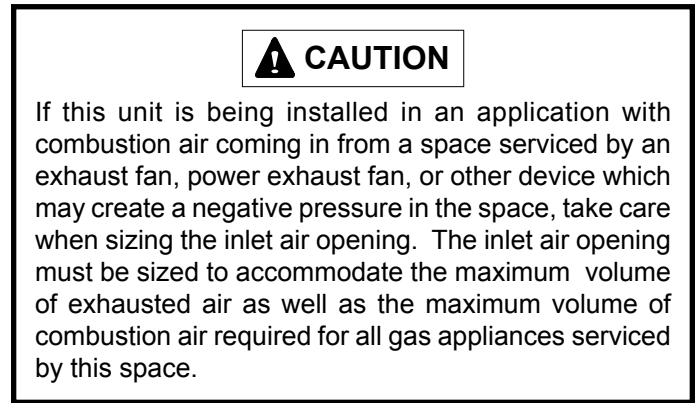
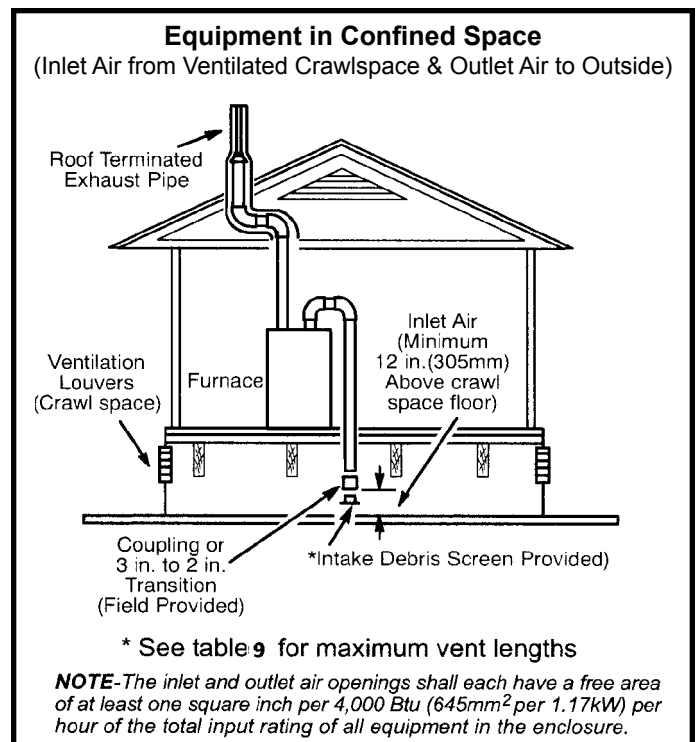

Figure 25
Figure 26
2. If intake air is drawn from a ventilated attic (Figure 25) or ventilated crawlspace (Figure 26) the exhaust vent length must not exceed those listed in Table 8. If 3" diameter pipe is used, reduce to 2" diameter pipe at the termination point to accommodate the debris screen.